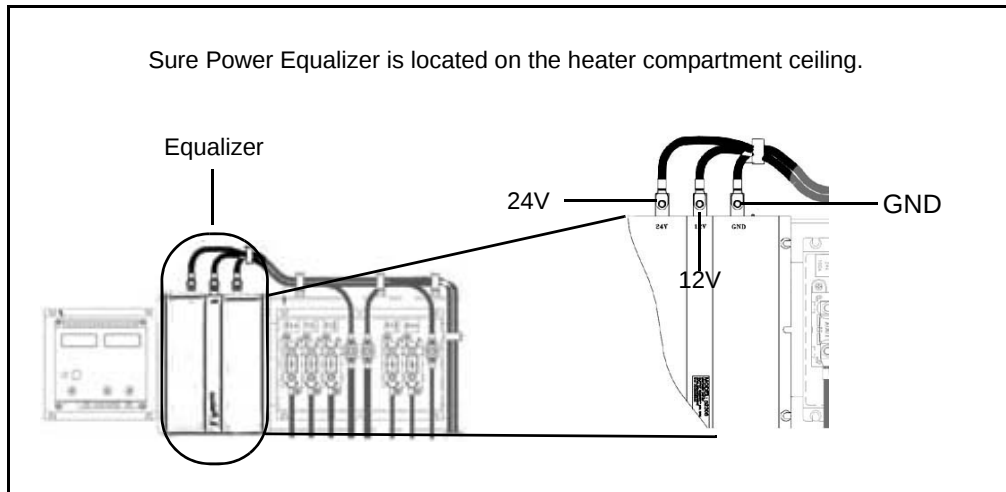

Figure 1-2 Orion V Sure Power Equalizer Location
3. Reference mark equalizer cable connections. **See Figure 1-2.**
1. Install equalizer onto mounting area (See **Figure 1-2**) using the following replacement hardware:
2. Install equalizer connections to the referenced marked positions and torque to 110 inlbs (12.4 NM). **See Figure 1-2.**